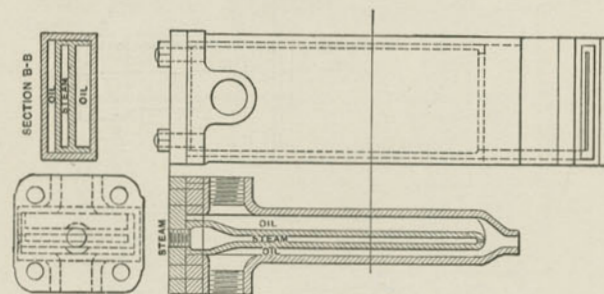

Fig. 297a. Sheedy Oil Burner.
A. Referring to Fig. 297a: There are three passages, for steam, air and crude oil respectively. As seen in the